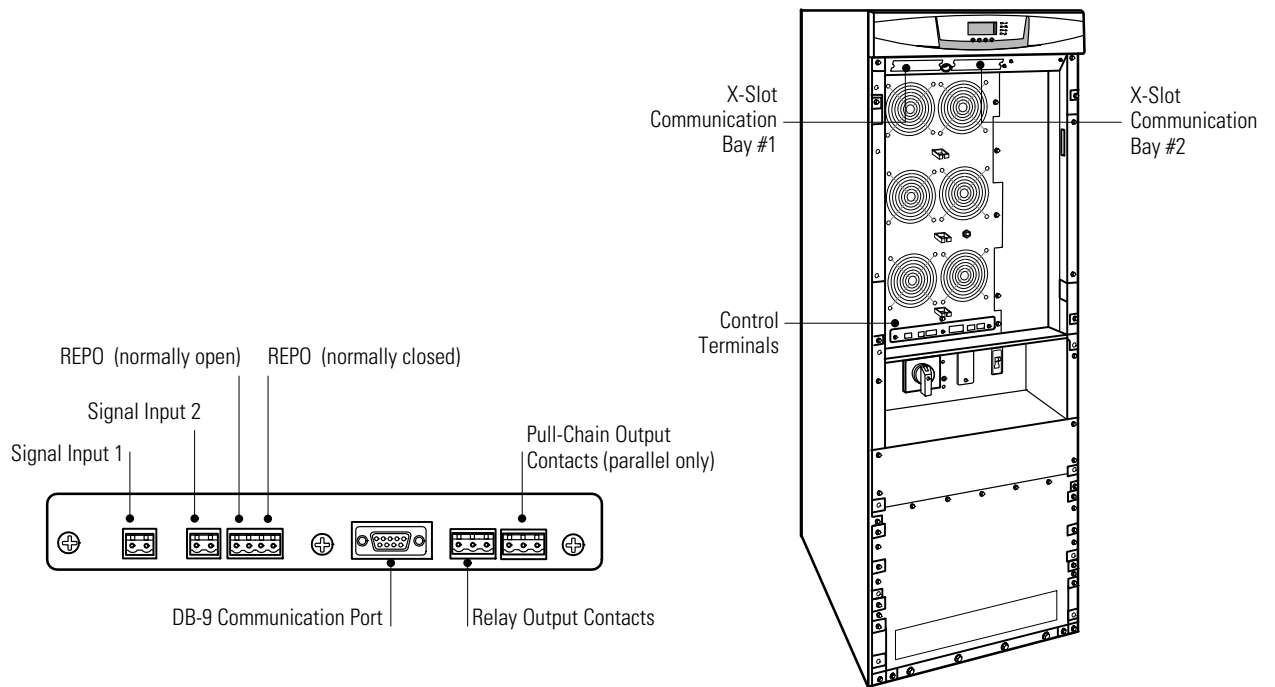
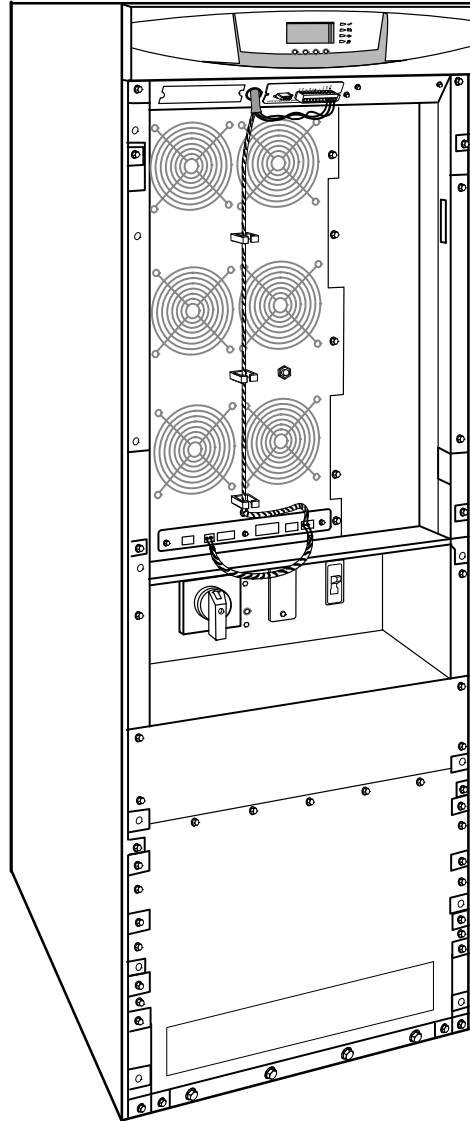

Figure 12. Communication Options and Control Terminals
Figure 17. Installing Communication Cables
Figure 12 shows the location of the communication options and control terminals on the UPS.
5. Install the CAN Bridge Card into X-Slot 2 (see Figure 12 and Figure 17).
10. Route the pull-chain wiring through the middle of the fan section and secure in the cable clips for each UPS (see Figure 17).